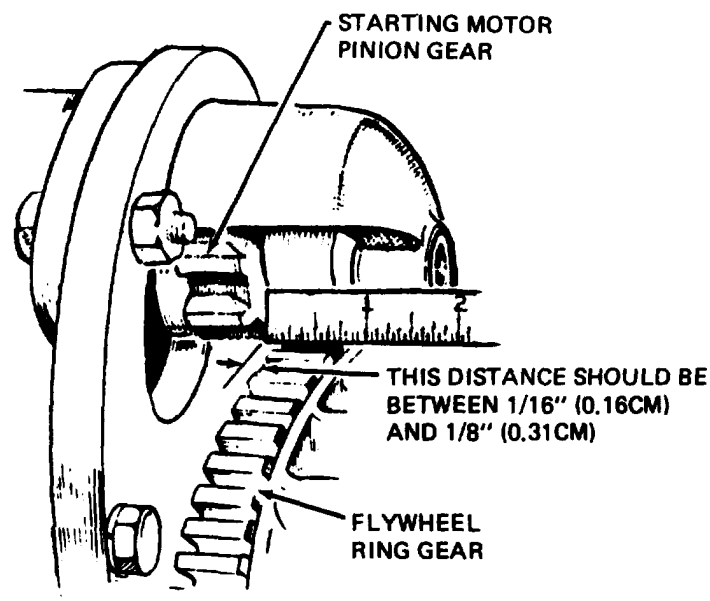

Figure 5-30. Pinion Clearance
(2) Apply 20 weight oil to armature shaft and splines. Use grease sparingly on intermediate bearing assembly and spacing washers at end of the shaft.
o. Installation. Refer to paragraph 4-54 and install starter. Check pinion clearance (figure 5-30) between starting motor pinion gear and flywheel ring gear.